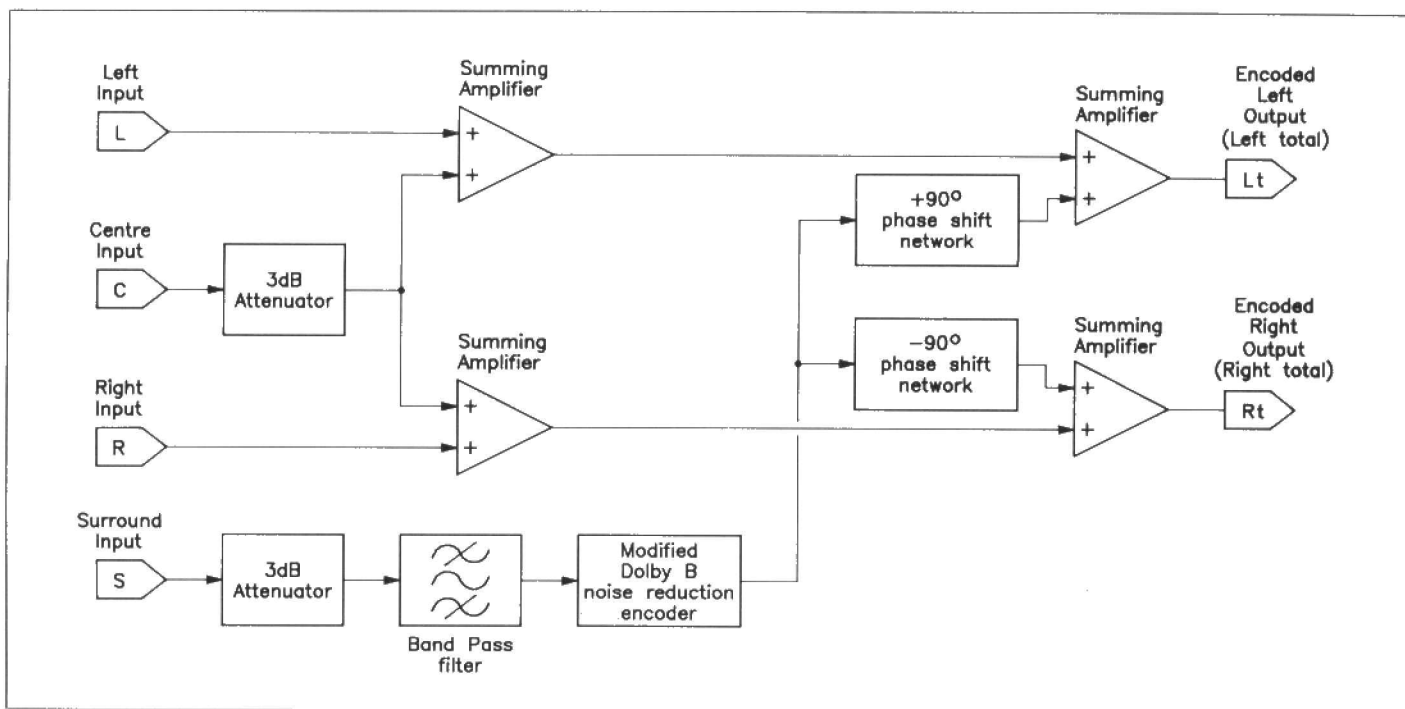

Figure 3. Dolby stereo motion picture matrix.
Figure 3 shows the concept of how the four channels are combined/encoded into two channels. The Dolby MP Matrix encoder has four inputs; left (L), right (R), centre (C) and surround (S), and two outputs; encoded left (Lt) and encoded right (Rt). The left and right input signals pass unprocessed, through the summing amplifiers, to the respective left and right encoded (Lt & Rt) outputs. The centre input signal is attenuated by 3dB (to maintain constant audio power) and is summed equally with the left and right signals. The surround input signal is also attenuated by 3dB, but before summing